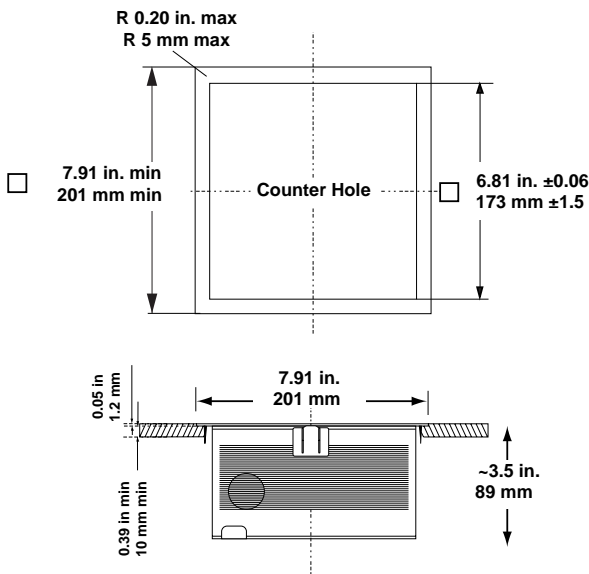

Figure 6. Stainless Steel Top Option B
1. On the counter top, measure two squares: an inside square of 6.81 in. (173 mm), and an outside square of 7.91 in. (201 mm) (Figure 6).